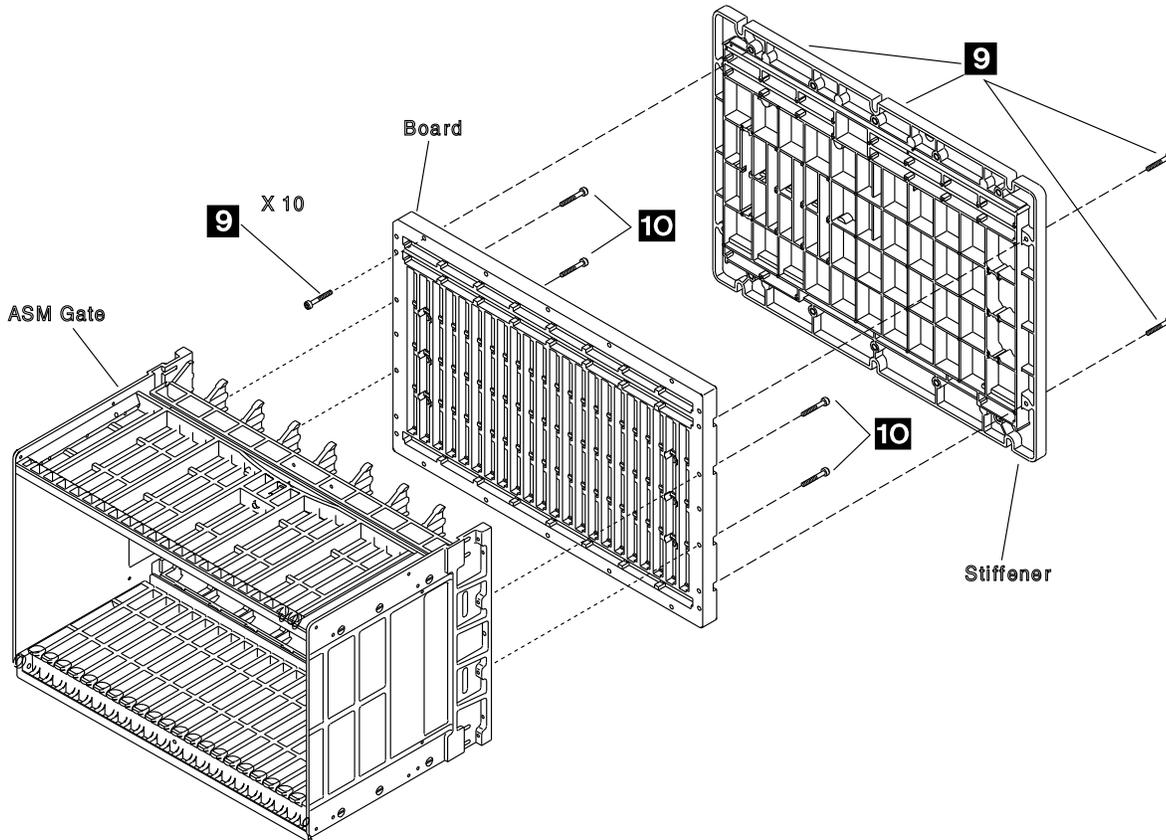

Figure 4-112. Basic Assembly 2
32. Remove the 14 screws **9** which hold the stiffener to the board (refer to Figure 4-112).
34. Remove the four screws **10** which hold the board to the ASM gate (refer to Figure 4-112).
1. Place the new board on the ASM gate and fasten it with the four screws. **10**. Refer to Figure 4-112 on page 4-82.
2. Install the stiffener on the board and fasten it with the 14 screws. **9** Refer to Figure 4-112 on page 4-82.